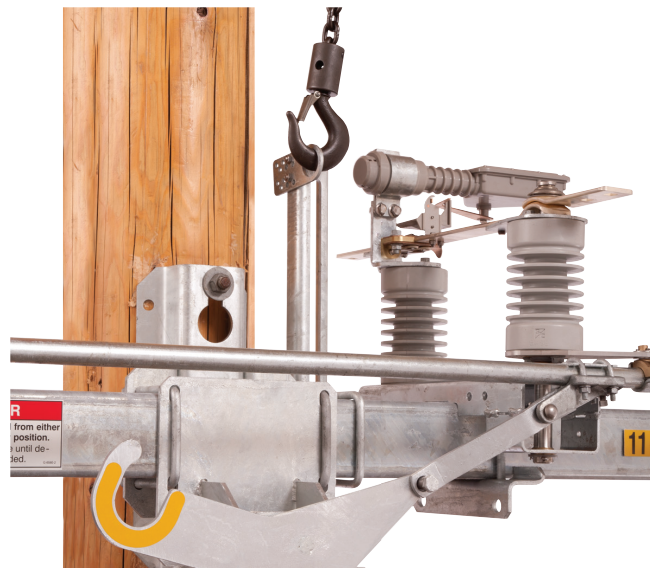

Figure 6. Retractable single point lifting bracket.
**Single-point lifting bracket** provides a simple means to lift the switch into position. The lifting bracket stays on the switch without interfering with built-in dielectric clearances. See Figure 6.